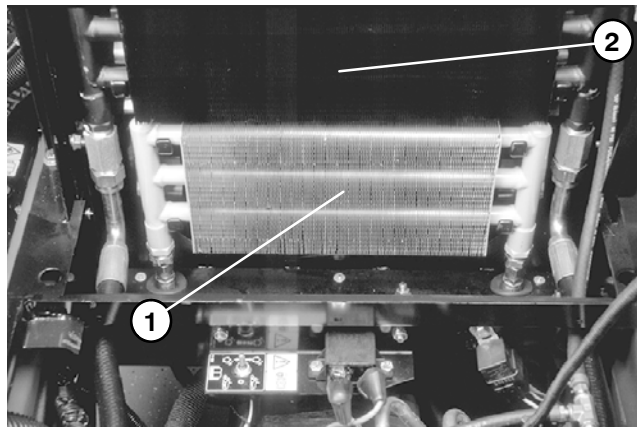

Figure 108
1. Remove oil cooler using Figures 108 and 109 as guides.
1. Install oil cooler using Figures 108 and 109 as guides.